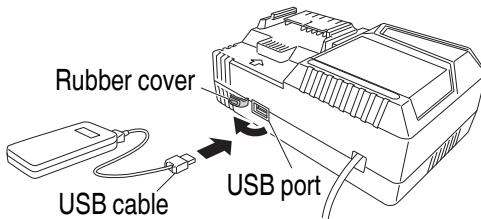

Fig. 15
## (2) Connect the USB cable. (Fig. 15)